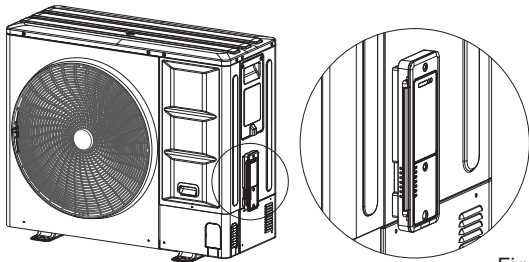

Fig.5.1
- The installation of the Bluetooth module is completed. Reinstall the right front side panel. See Figure 5.1 for a diagram of how the module should appear after installation is complete.